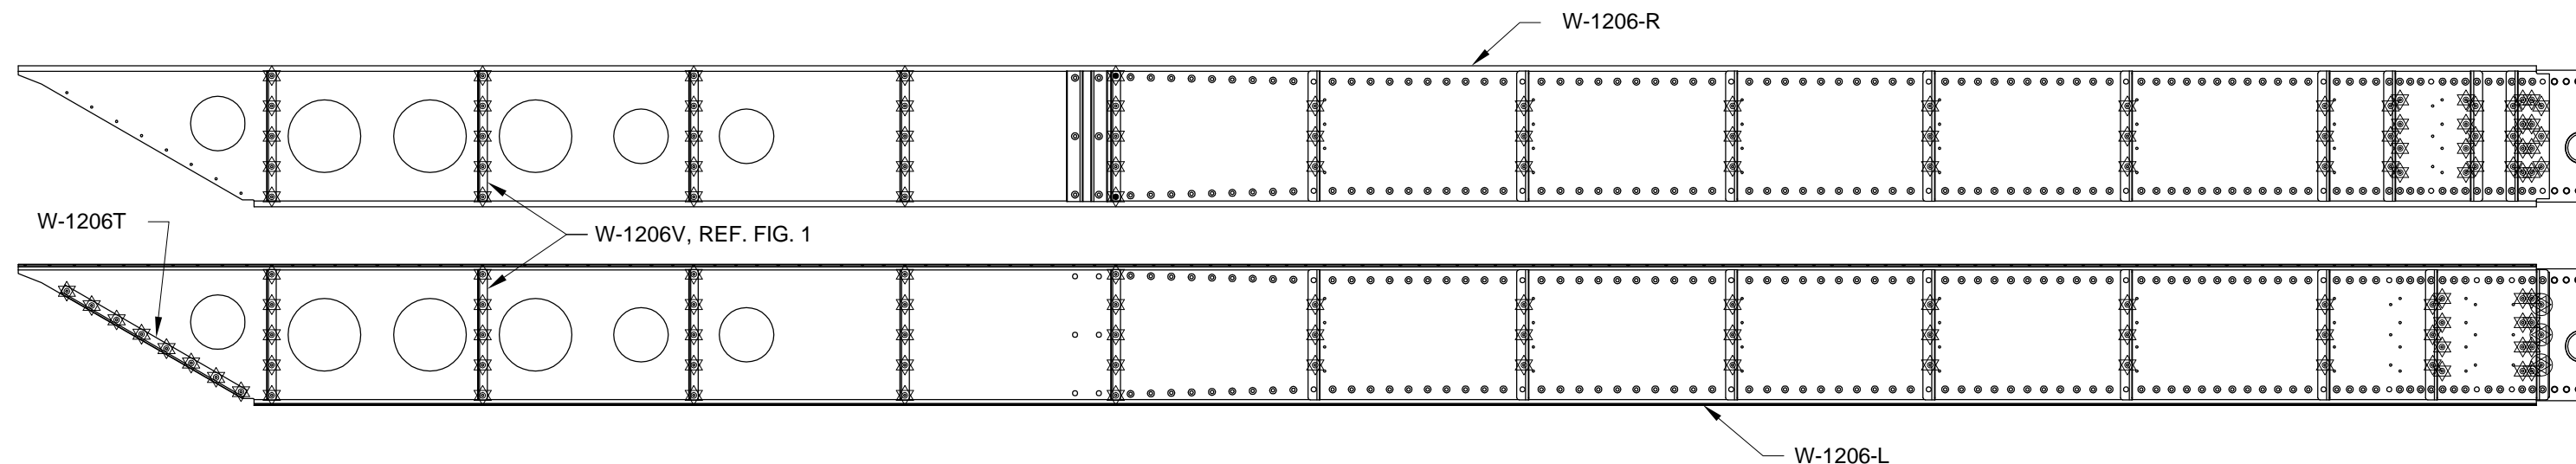

FIGURE 3:
Step 4: Rivet all of the W-1206V Attach Angles to the W-1206-L & -R, Spar Assemblies. Rivet the W-1206T Attach Angle to the left spar assembly as shown in Figure 3.
Step 5: Rivet the W-1206-L & -R, Spar Assemblies at the remaining holes marked with the symbol in Figure 3.